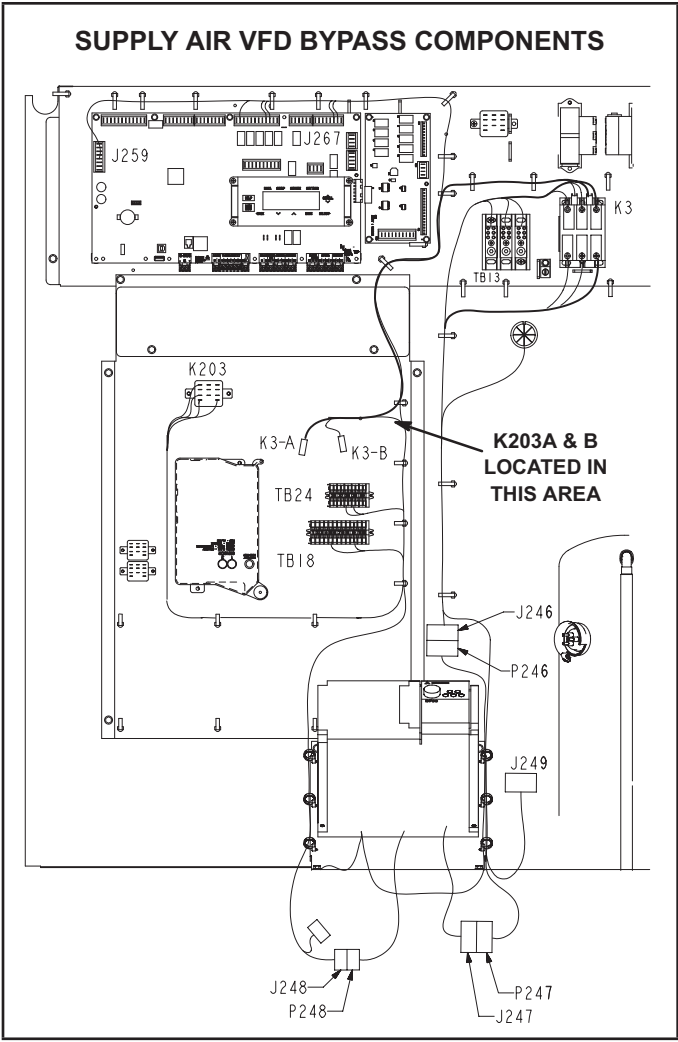

FIGURE 42
- 5 - Locate VFD control relay K203 on the lower control panel next to terminal strip TB24. See figure 42.
- 6 - Locate wires labeled K203-A and K203-B in area shown in figure 42. Disconnect insulated terminals.